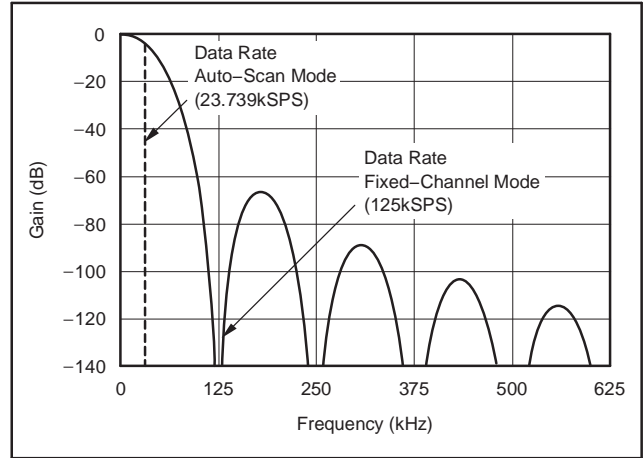
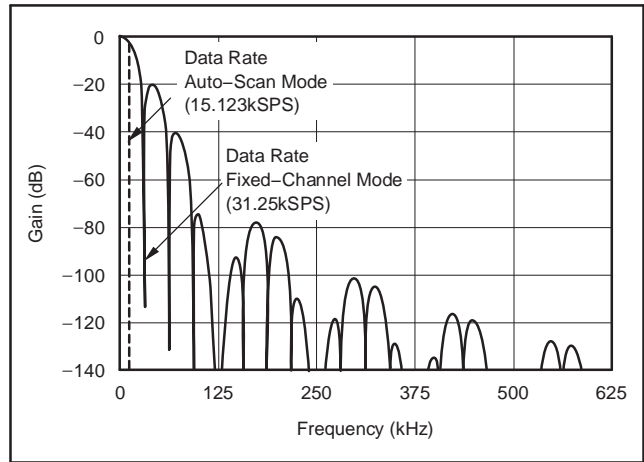

Figure 42. Frequency Response, DRATE[1:0] = 11
Figure 43. Frequency Response, DRATE[1:0] = 10
The low-pass filter has notches (or zeros) at the data output rate and multiples thereof. The sinc⁵ part of the filter produces wide notches at $f_{CLK}/128$ and multiples thereof. At these frequencies, the filter has zero gain. Figure 42 shows the response with no post averaging. Note that in Auto-Scan mode, the data rate is reduced while retaining the same frequency response as in Fixed-Channel mode.
Figure 43 shows the response with averaging set to 4 (DRATE[1:0] = 10). 4-reading, post-averaging produces three equally-spaced notches between each main notch of the sinc⁵ filter. The frequency response of DRATE[1:0] = 01 and 00 follows a similar pattern, but with 15 and 63 equally-spaced notches between the main sinc⁵ notches, respectively.
(1) f_{CLK} = 16MHz, Chop = 0, and Delay = 0.
(2) Num_Ave is the number of averages performed by the digital filter second stage.
(3) In Auto-Scan mode, the data rate listed is for a single channel; the effective data rate for multiple channels (on a per-channel basis) is the value shown in Figure 42 and Figure 43 divided by the number of active channels in a scan loop.
Referring to Figure 42 and Figure 43, frequencies present on the analog input above the Nyquist rate (sample rate/2) are first attenuated by the digital filter and then will alias into the passband.